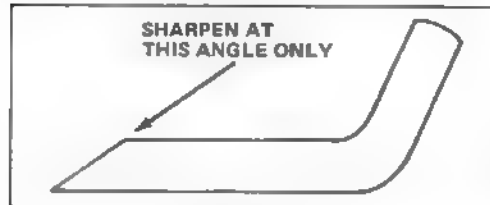

Figure 24
6. SHARPENING BLADE – Using a file, sharpen top side of blade and maintain original cutting angle (Fig. 24). The blade will remain balanced if same amount of material is removed from both cutting edges.